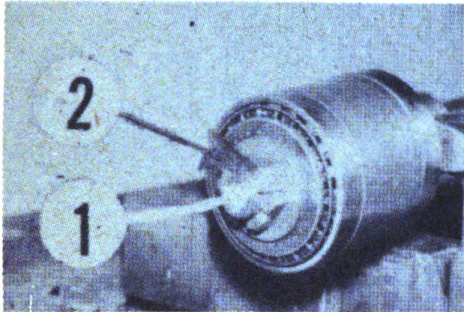

Figure 5. REMOVING LOCK NUT
3. Tighten inner lock nut (2). Loosen 1 - 2 slots, replace cotter pin (1) and bend over end to lock in place. See Figure 5.